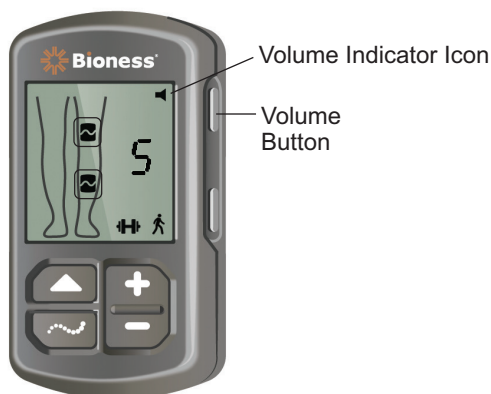

Figure 7-3: Volume Button on Control Unit
1. Press the Volume button on the Control Unit. See Figure 7-3. The Volume Indicator icon in the upper right corner of the digital display will disappear.
1. Press the Volume button on the Control Unit. See Figure 7-3. The Volume Indicator icon in the upper right corner of the digital display will appear.